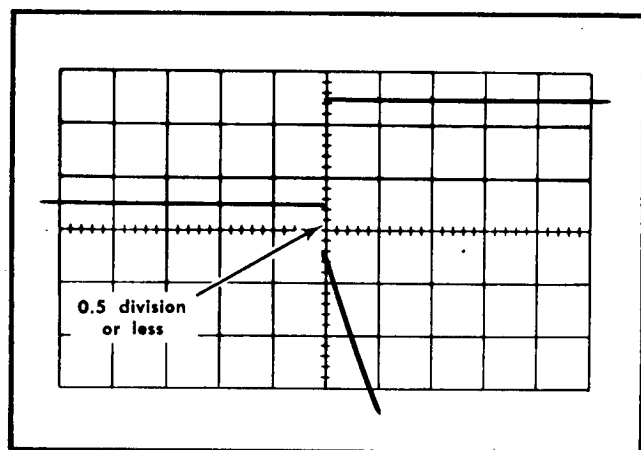

Fig. 5-28. Typical CRT display showing correct calibrator repetition rate.
i. CHECK-Separation between Calibrator waveform leading edge and the marker leading edge not to exceed 0.5 division (0.5% accuracy; see Fig. 5-28).